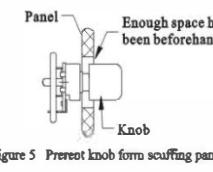

Figure 5 Prevent knob from scuffing panel
7、面壳上为电位器调节旋扭而预留的安装孔的直径，在设计时请留够的配合间隙，因为旋扭的同轴度偏差及电位器轴柄晃动量的影响，若配合过于紧密，易产生旋扭与面壳刮擦的现象。（见图5）
7.Sufficient fitting clearance should be arranged when calculating the diameter of the mounting hole prepared for the actual products may be different from that in this catalogue. knob in the panel. Too tight fitting, together with deviation of knob center line and unsteadiness of the shaft handle will cause scraping and friction between the knob and the panel. (see figure 5)